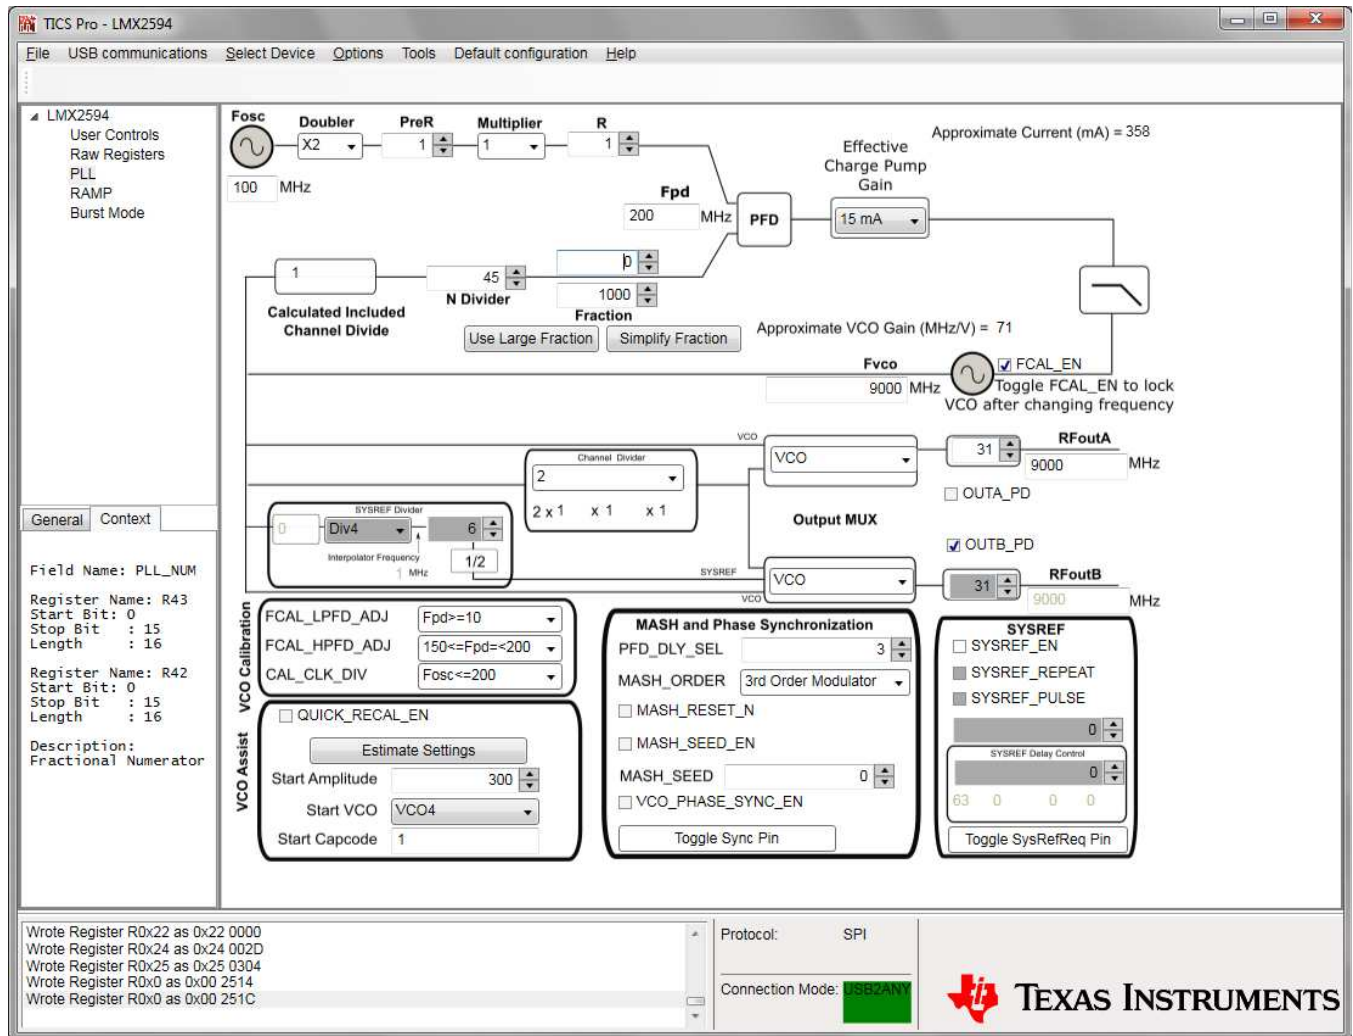

图 4. TICSPRO Software Setup
2. To start the software, open the *TICS PRO.exe* from the installed directory. 图 4 shows the user interface.